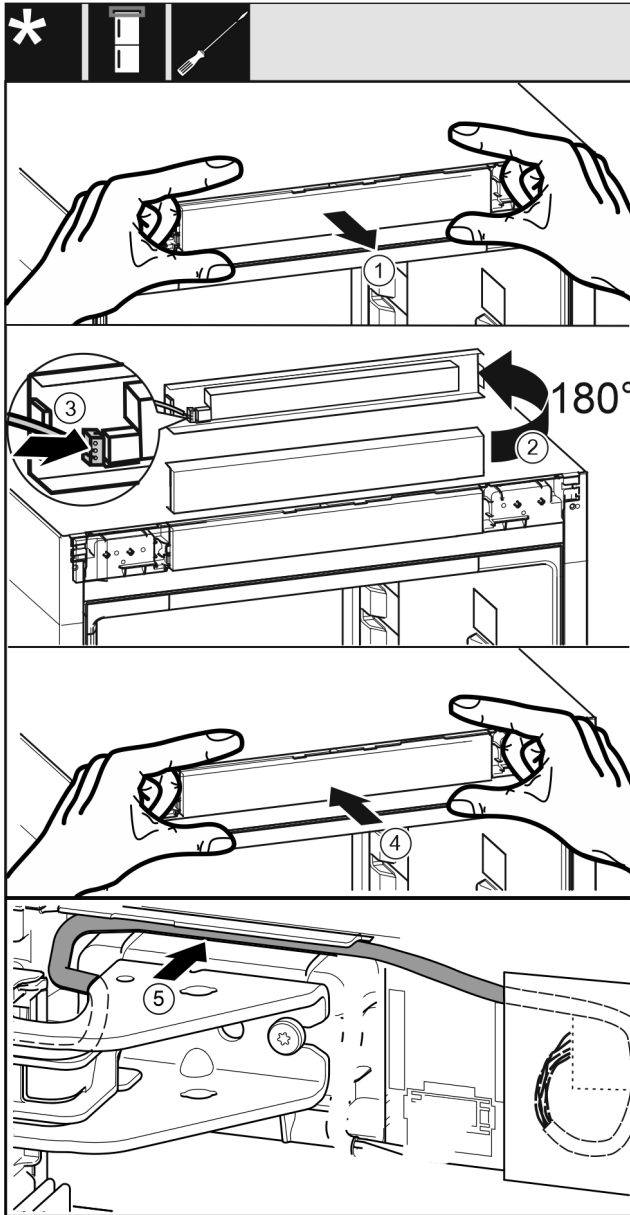

Fig. 41
- ▶ Carefully pull out the control plate Fig. 41 (1).
- ▶ Turn the control plate Fig. 41 (2) upward by 180°.
- ▶ Snap the plug Fig. 41 (3) into place on the control unit panel.
- ▶ Snap the control plate Fig. 41 (4) back onto the appliance.
- ▶ Carefully insert the cable Fig. 41 (5) into the guide above the top swap bearing block.